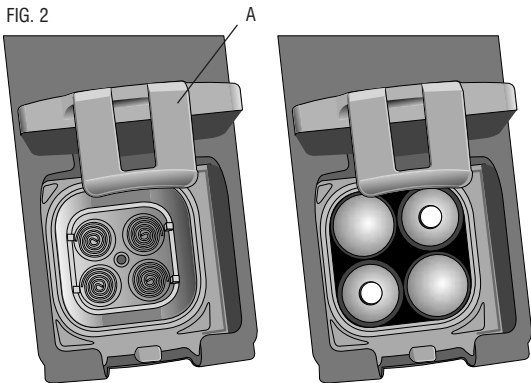

FIG. 3
The DW082 is equipped with a Low Battery Indicator Light (B), as shown in Figure 3. The Low Battery Indicator Light is located directly above the ON/OFF button (C).